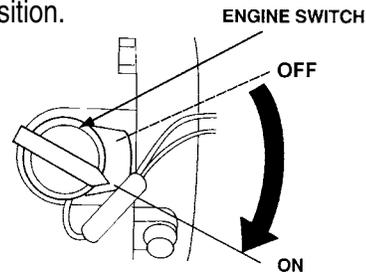

Figure 16. Engine ON/OFF Switch (ON Position)
5. Place the engine ON/OFF switch (Figure 16) in the “ON” position.